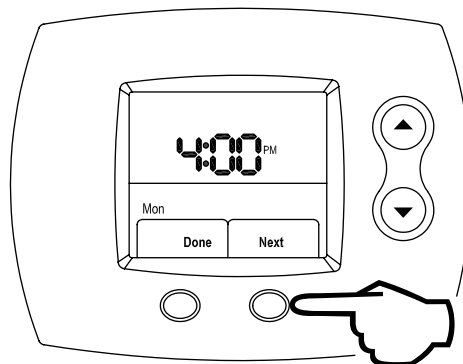

Figure 111
Step 3: Press the **RIGHT** (Next) button to set the hour, which is shown in Figure 111.